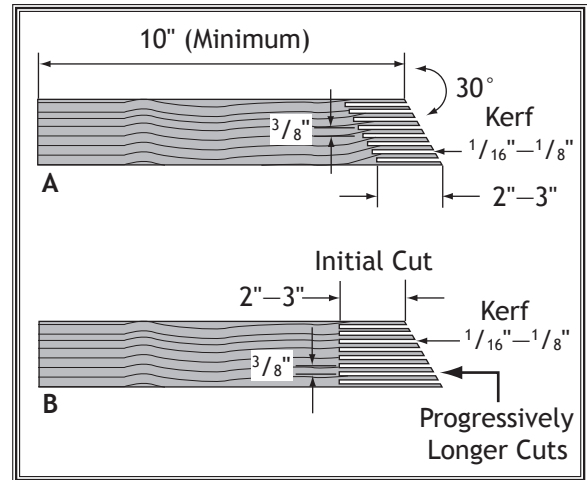

Figure 72. Patterns for featherboards (top view shown).
Easily made from scrap stock, featherboards (Figure 72) provide an added degree of protection against kickback, especially when used together with push sticks. They also maintain pressure on the workpiece to keep it against the fence or table while cutting, which makes the operation easier and safer because the cut can be completed without the operator's hands getting near the blade. The angled ends and flexibility of the fingers allow the workpiece to move in only one direction, which helps slow/stop the workpiece if a kickback occurs.
3. Make a series of end cuts with the grain, approximately $\frac{3}{8}$ "- $\frac{1}{4}$ " apart and 2"-3" long, as shown in **Figure 72 (A)**.
Alternatively, start cuts at 2"-3" deep, then make them progressively deeper, as shown in **Figure 72 (B)**.